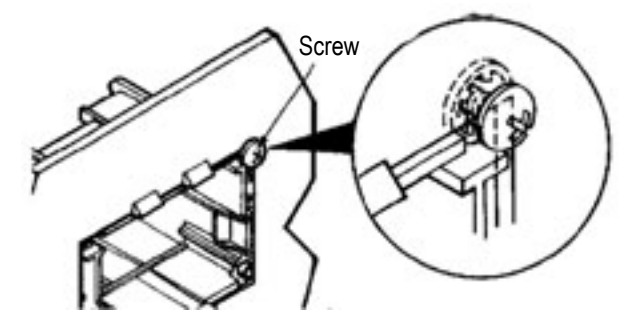

Figure 6
2. Install two No. 2 screws into two posts located diagonally apart. Tighten screws to clamp housing to panel. See Figure 6.
3. Install the two No. 2 screws onto the two posts which hold the serrated washers. Tighten screws to clamp housing to panel. See Figure 6.